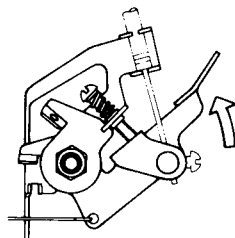

Fig. 2
1. Set the engine stop switch to the "ON" position and the control lever to the "START" position. (See Fig. 2)